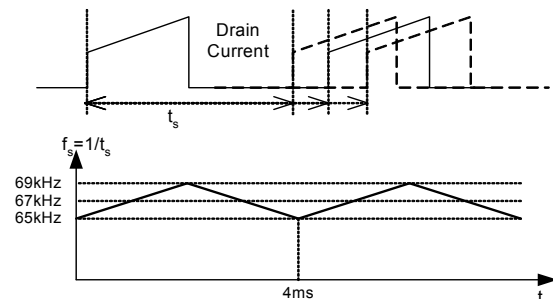

Figure 10. Frequency Modulation Waveform
7. Frequency Modulation : Modulating the switching frequency of a switched power supply can reduce EMI. Frequency modulation can reduce EMI by spreading the energy over a wider frequency range than the bandwidth measured by the EMI test equipment. The amount of EMI reduction is directly related to the depth of the reference frequency. As can be seen in Figure 10, the frequency changes from 65KHz to 69KHz in 4ms for the FSDM0365RN (48.5KHz to 51.5KHz for FSDL0365RN). Frequency modulation allows the use of a cost effective inductor instead of an AC input mode choke to satisfy the requirements of world wide EMI limits.